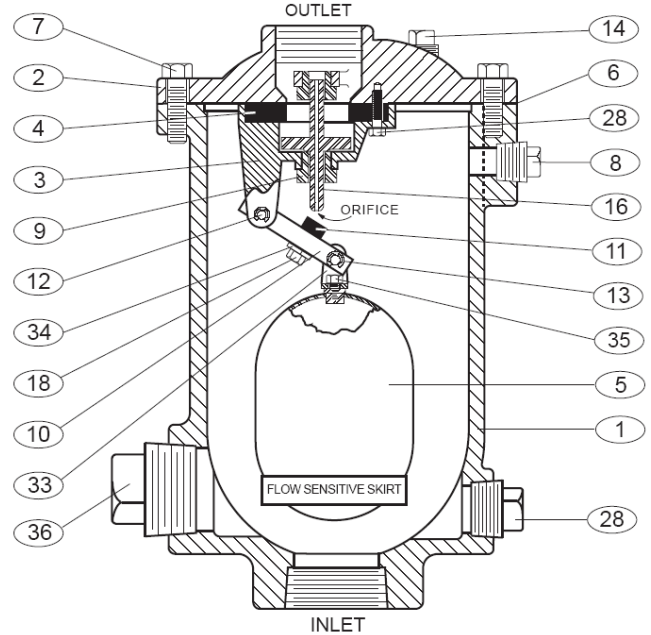
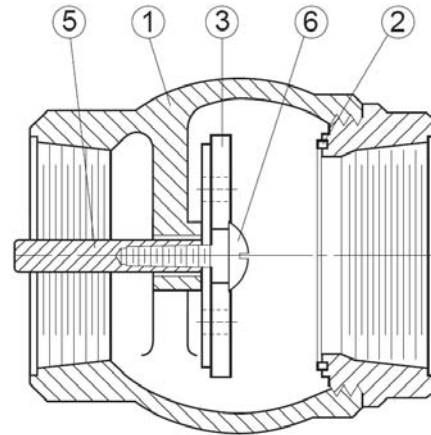
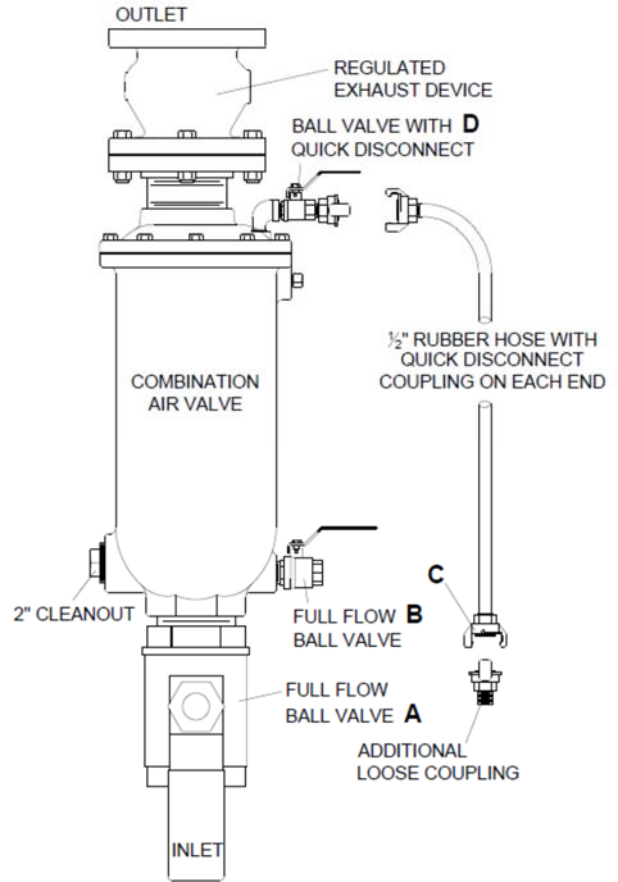

FIGURE 2. 1"-4" WASTEWATER COMBINATION AIR VALVE
FIGURE 3. 1"-2" REG. EXH. DEVICE
FIGURE 5. TYP. BACKWASH ARRANGEMENT
The standard Wastewater Surge Suppression Combination Air Valve consists of an air valve and a regulated exhaust device piped on the outlet. See the specific Materials List submitted for the order if other than standard cast iron construction. The general detail of construction for the air valve is illustrated in Figure 2 and listed in Table 1.
The general detail of construction for the regulated exhaust device is illustrated in Figures 3 and 4 and listed in Tables 2 and 3.
Refer to the Figure 5 for the correct piping arrangement. Please note each kit contains extra fittings such as reducer bushings that may not be needed for your valve. The fittings should be installed with a standard pipe compound such as Oatey White Thread Sealant (supplied) or sealing tape. The quick disconnect fittings (Air King Universal Couplings) are designed for easy push and turn connections to a clean water source.
Backwash Procedure: In order to properly backwash the valve, a 1" clean water supply of at least 30 psi is needed. This supply should be connected to the rubber hose with quick disconnect couplings as provided with the wastewater valve and shown in Figure 5.
1. See Figure 3. Close inlet shut-off valve (A). Open drain valve (B) or remove drain plug. See Figure 5. Unscrew the Regulated Exhaust Device from the top of the valve. Remove the cover bolts (7) on the top cover of the air valve as shown in Figure 2.
2. Pry cover (2) loose with sharp chisel or screwdriver and lift off valve body. The float will be connected to the cover.
3. Remove the retainer screws (28) and inspect the seat (4) and button (11) for cracks in the rubber or wear in the sealing surfaces.
4. Remove the plug (16) from the baffle (3). The small orifice through the plug should be clean. The plug shaft and bushing (9) ID should be polished clean with 4x0 steel wool or 320 grit polishing compound.
5. Turn guide bushing (9) to remove it from the baffle. Remove the retainer rings (13) to disassemble the float arm assembly.
All parts must be cleaned, and gasket surfaces should be cleaned with a stiff wire brush in the direction of the serrations or machine marks. Worn parts, gaskets and seals should be replaced during reassembly. Refer to Figure 2.
1. Apply Loctite 680 thread sealant to guide bushing threads (9) and thread bushing into baffle (3).
2. Lay seat (4), plug (16), and baffle (3) over inverted cover and fasten with screws (28) with maximum torque of 10 ft-lbs. Do not over tighten.
3. Assemble float (5) with Loctite 680 on the threaded connections of float retainer (17) and guide shaft retainer (35).
4. Insert pivot pins (12) through float arm (10) and fasten with retainer rings (13). Thread in orifice button (11) and secure with lockwasher (34) and lock nut (18). Adjust orifice button so that when float is seated against the plug, the button is centered.
5. Lay cover gasket (6) over body flange and secure with lubricated bolts (7) to the torque shown in Table 2.
6. Place valve back in service. Refer to the installation instructions on page 2. Slowly open inlet isolation valve A as shown in Figure 5.